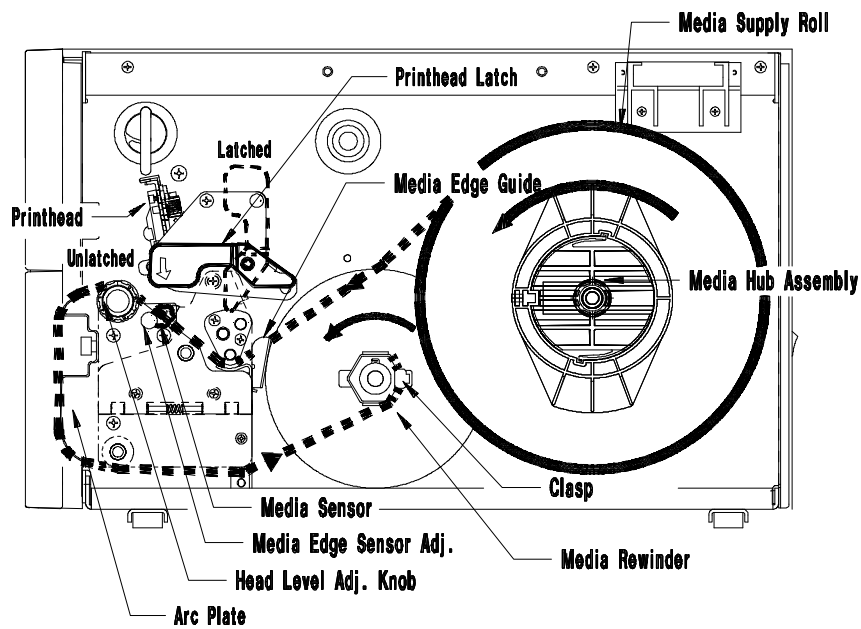

Figure 2-7 Installing Media with Internal Rewind Option
- Route the media over the Guide Plate, between the Media Sensor, and over the Platen Roller, (located beneath the Printhead), around the Arc Plate and to the Media Rewinder as shown Figure 2-7.